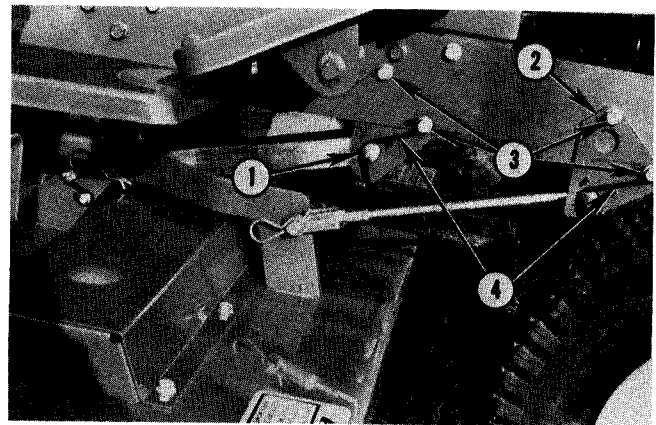

Fig. 37 — Mower Anchor Plates (Right-Hand Side Shown)
4. Bolt the anchor plates and retainer springs to Tractor frame as shown in Fig. 37. Secure with $3/8''$ x $1-1/4''$ bolts and flange lock nuts and tighten nuts to 40 ft.-lbs. torque. Note that front anchor plates attach to outside of frame and rear anchor plates attach to inside of frame. Also note carefully the position of the spring retainers.